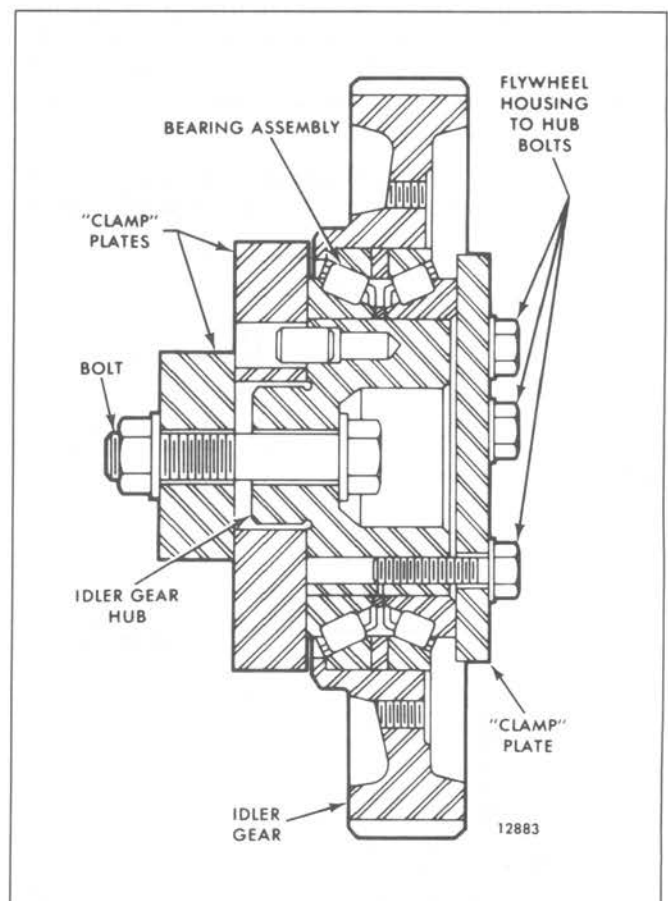
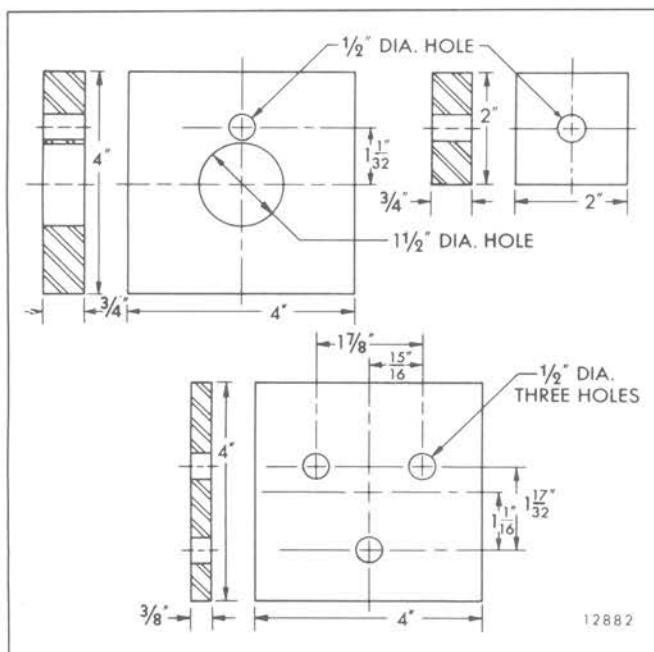

Fig. 6 - Fixture for Testing Bearing Pre-Load
Fig. 7 - Plates for Bearing Test Fixture
3. Place the steel plate (lower plate shown in Fig. 7) against the hub and bearing. Insert three 3/8"-16 bolts through the plate and thread them into the hub. Tighten the bolts to 25-40 lb-ft (34-54 N•m) torque.
If the crankshaft and camshaft gears are mounted on the engine, a suitable fixture, which may be held in a vise, can be made as shown in Fig. 6. Three plates (shown in Fig. 7), a 1/2"-13 x 2-3/4" bolt and a plain washer are used with a 1/2"-13 nut and plain washer for mounting. One of the plates is used to take the place of the flywheel housing, and the other two plates, the cylinder block. "Engine-mounted" conditions are simulated by tightening the nut to 80-90 lb-ft (108-122 N•m) torque and tightening the three plate-to-hub attaching bolts to 25-40 lb-ft (34-54 N•m) torque.
1. Attach two of the plates (two upper plates shown in Fig. 7) to the idler gear hub with the 1/2"-13 bolt, washers and nut as shown in Fig. 6. Tighten the bolt to 80-90 lb-ft (108-122 N•m) torque.